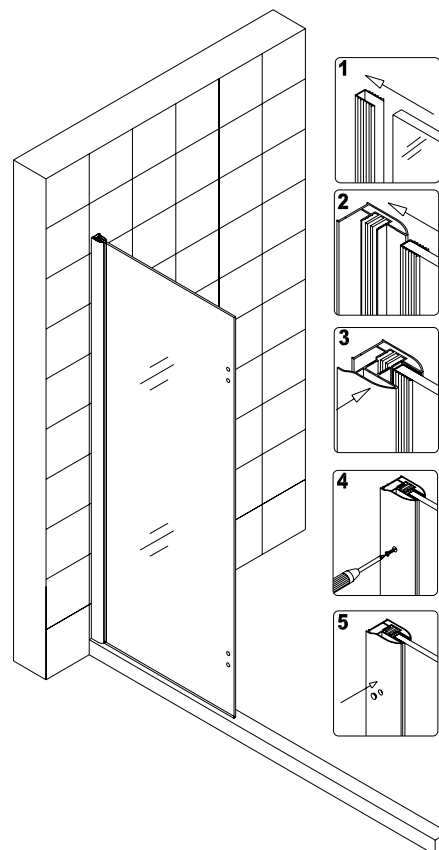

Fig 2
2. Push the **U shape seal gasket (13)** on the edge of the **stationary glass (02)**. Push the stationary glass with the U shape seal gasket into the wall profile and secure the glass profile with the wall profile using **Screw ST4.2×15 (09)**. Cover the screw holes with **Decorative Covers (08)** (fig 2).